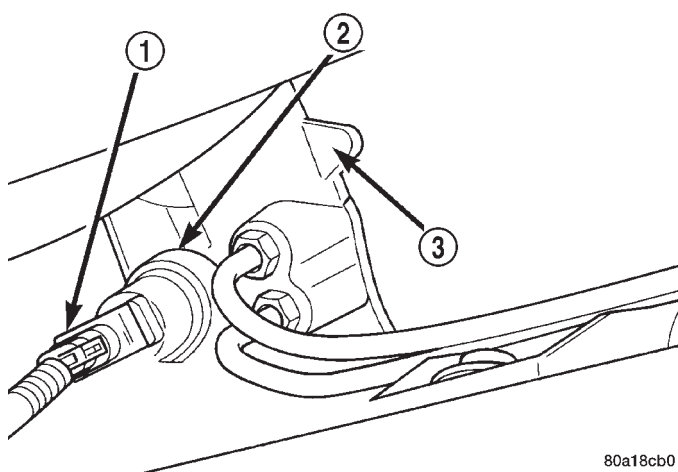

Fig. 25 Power Steering Pressure Switch Location On Steering Gear
(1) Disconnect negative battery cable from the negative post of the battery. Be sure cable is isolated from negative post on battery.
(2) Raise vehicle.
(3) Locate power steering pressure switch (Fig. 25) on the back side of the power steering gear.
(4) Remove the vehicle's wiring harness connector (Fig. 25) from the power steering pressure switch.
(5) Using a crow foot and a long extension, remove the power steering pressure switch, from the power steering gear.